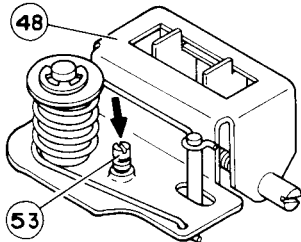
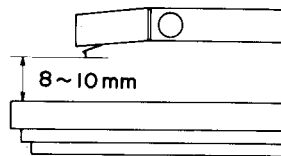

Figure 20
Figure 21
- (1) Remove the cabinet top according to "1. Removal of Cabinet Top" (page 4).
- (2) Turn the screw "53" described in Figure 20 so that the clearance between stylus and turntable platter will be within 8 ~ 10 mm when the tonearm is in up position (Figure 21).